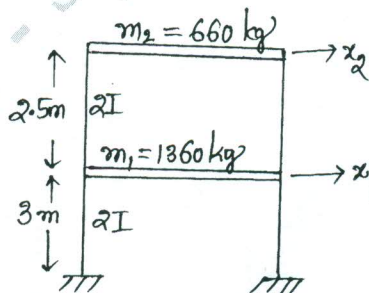

Fig Q5
- 5 Determine the natural frequencies and mode shapes for structure as shown in Fig Q5. Draw the mode shapes. Given $I = 5 \times 10^5 \text{ mm}^4$, $E = 2.5 \times 10^4 \text{ N/mm}^2$, $m_1 = 1360 \text{ kg}$, $m_2 = 660 \text{ kg}$.